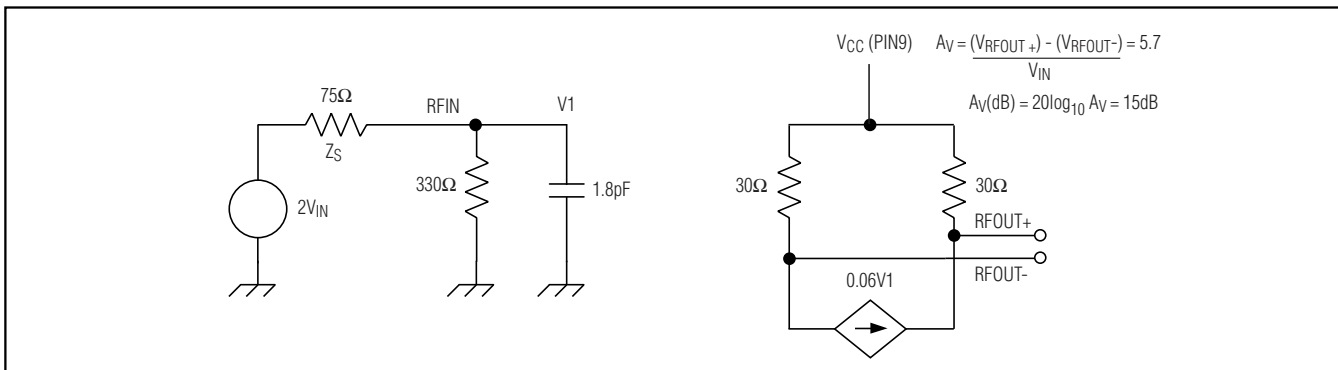

Figure 2. LNA Equivalent Circuit and Open-Circuit Voltage Gain Calculation
**Note 5:** Corresponding voltage gain at RL = 3kΩ, calculated as in Figure 2.
The low-noise amplifier operates from 44MHz to 880MHz and is designed specifically for cable TV and cable modem applications. The LNA provides 15dB of insertion voltage gain (see Figure 2) when driving a
The LNA input is single-ended. The RF input signal is coupled to RFIN through a DC blocking capacitor. The LNA outputs drive a differential load, such as a mixer, through DC blocking capacitors. The equivalent input LNA impedance is 330Ω resistive in parallel with 1.8pf, as shown in Figure 2. The approximate equivalent differential output impedance of the LNA is 60Ω. To achieve S11 less than -6dB, an insertion loss of greater than 1dB must exist between the cable input and MAX3524. This loss typically comes from a diplexer and PIN attenuator in a cable modem application. A shunt resistor may be added at the input of the LNA to improve the return loss (S11). Typically the return loss of the system is 2dB better, as explained above. The S11 and noise-figure values for different shunt resistors are given in Table 1.